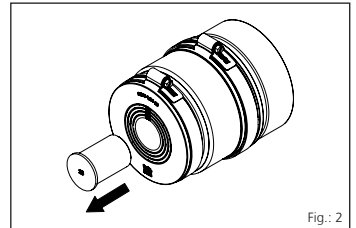

Fig.: 2
**1** For the application range 24-28 mm, the blind plug is removed from the front of the sleeve caps (see fig.: 2).